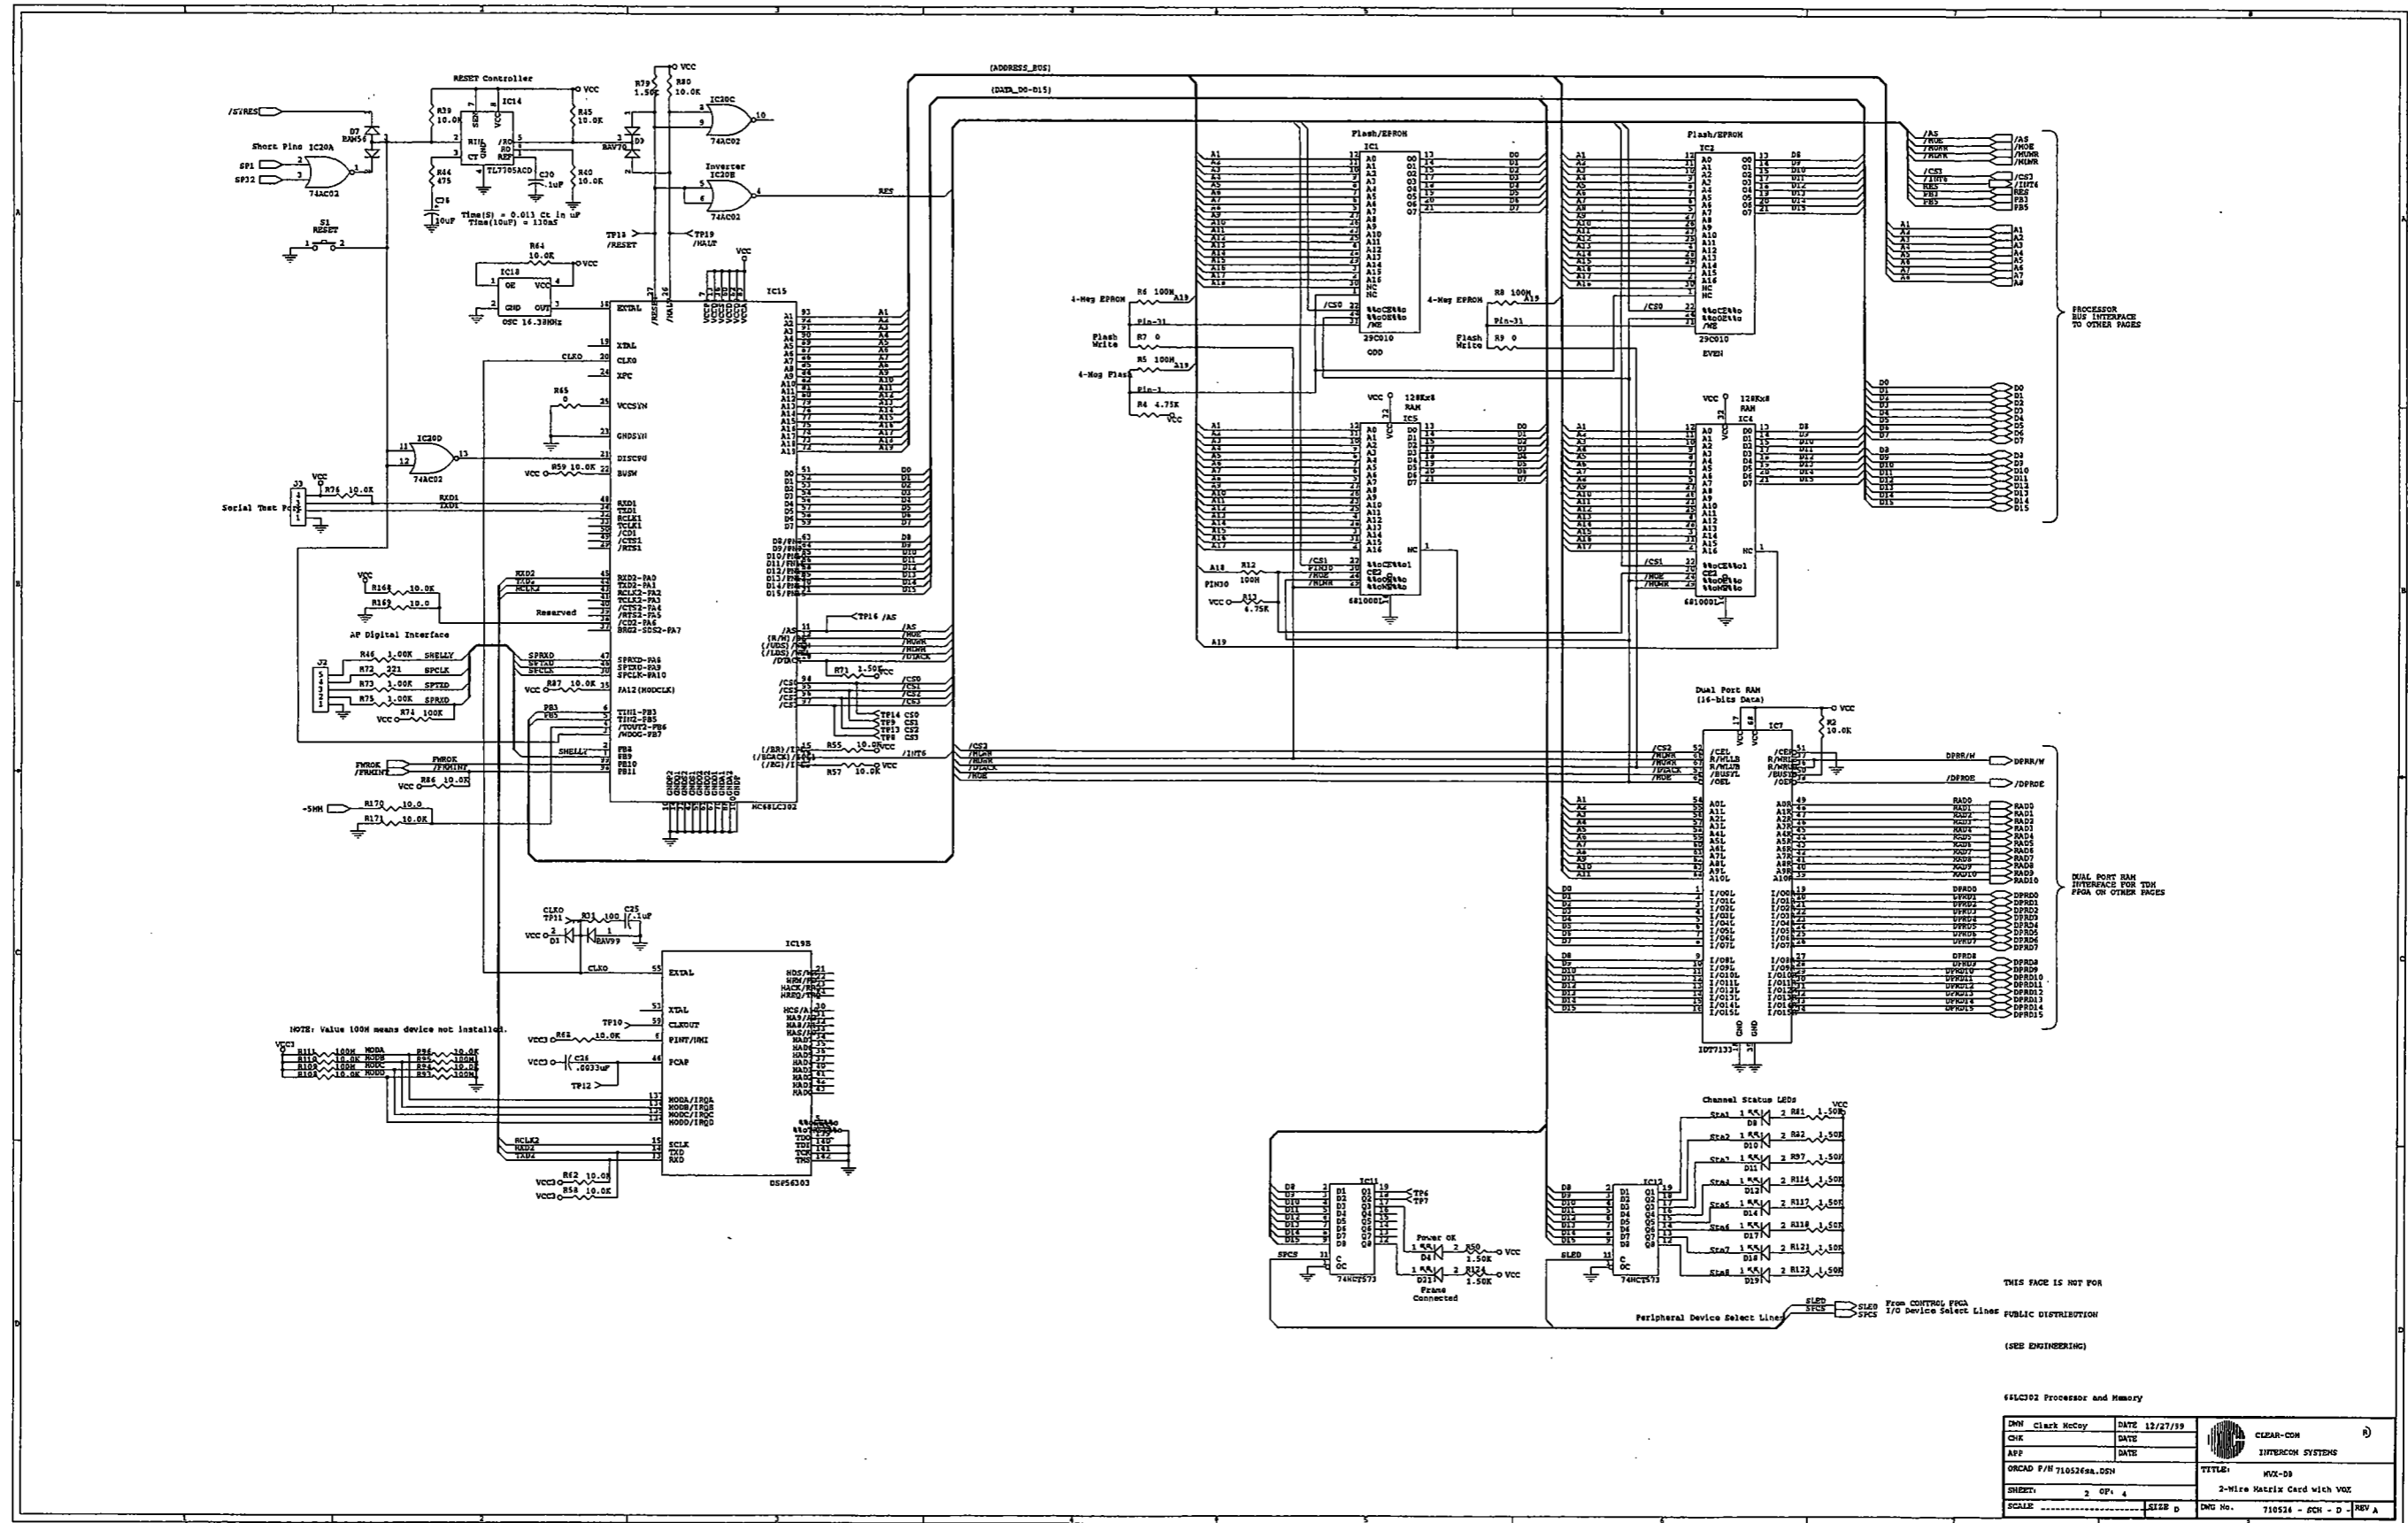

FIGURE M3-4: Schematic— MVX-D8 PCB Sheet 2, Rev. A
- Sheet 2 (Figure M3-4 on page M3-9) contains the microprocessor circuitry.